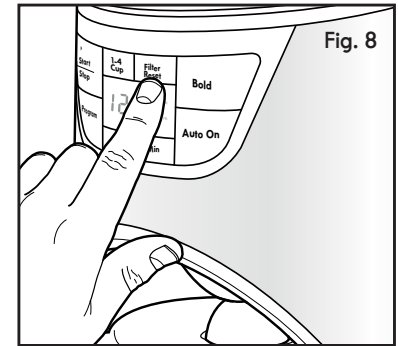

Fig. 8
1. Press the Filter Reset button on the control panel to turn off the blue light and reset the count (Fig. 8).